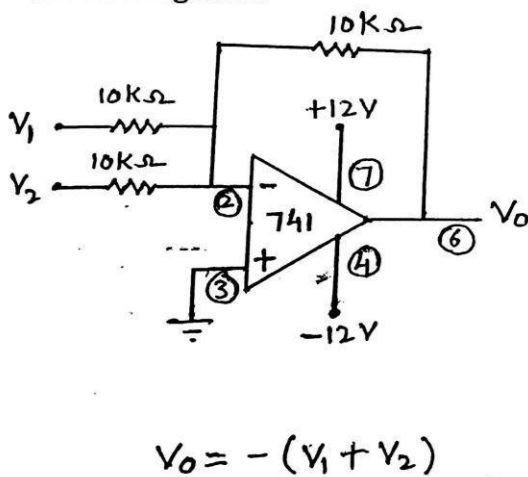
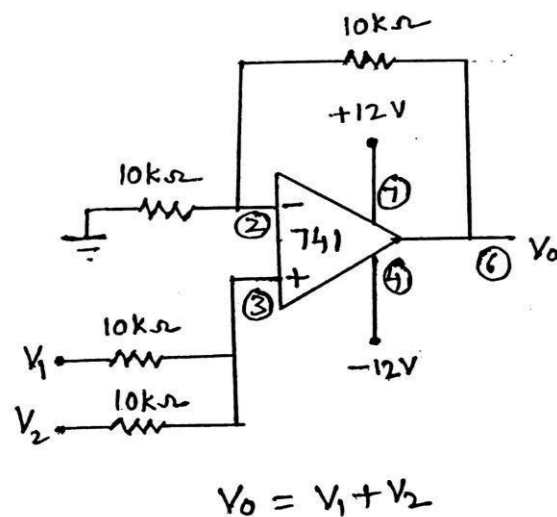
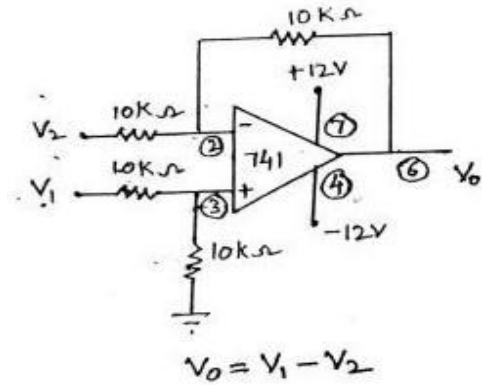
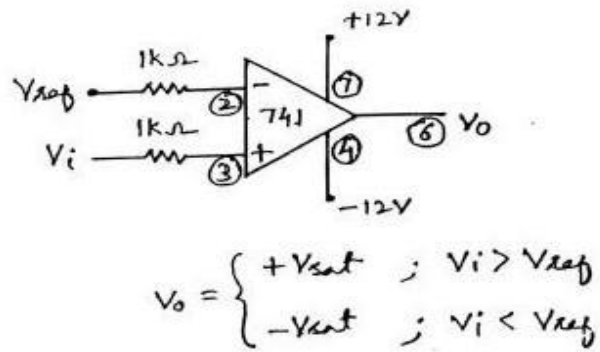

Figure 1: Inverting Adder
Figure 2: Non-inverting Adder
Figure 3: Subtractor
Figure 4: Comparator
1. Connect the circuits as shown in Fig. 1, Fig. 2, Fig. 3 & Fig. 4.